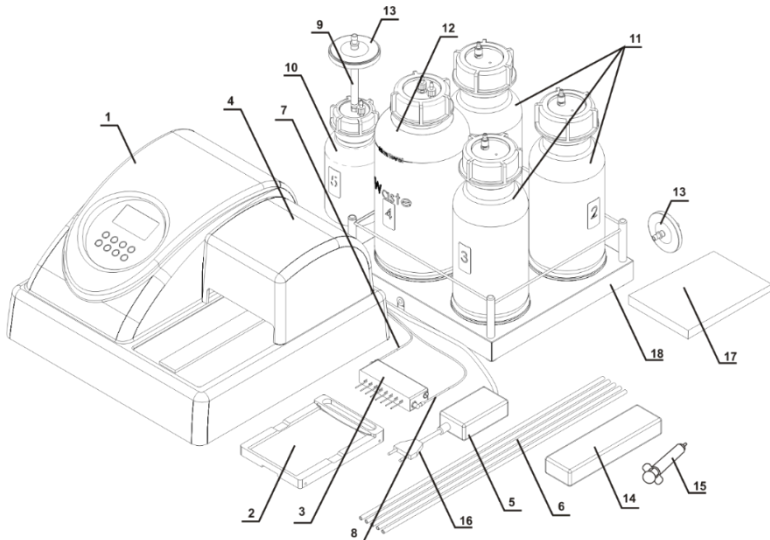
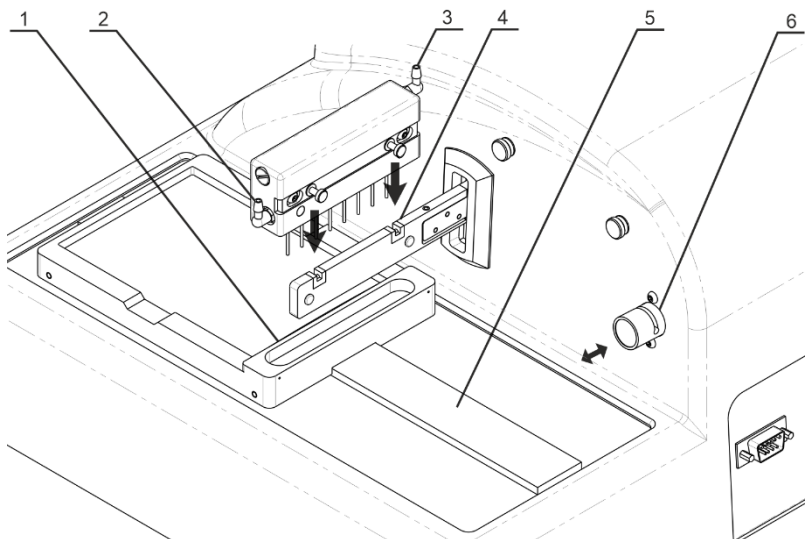
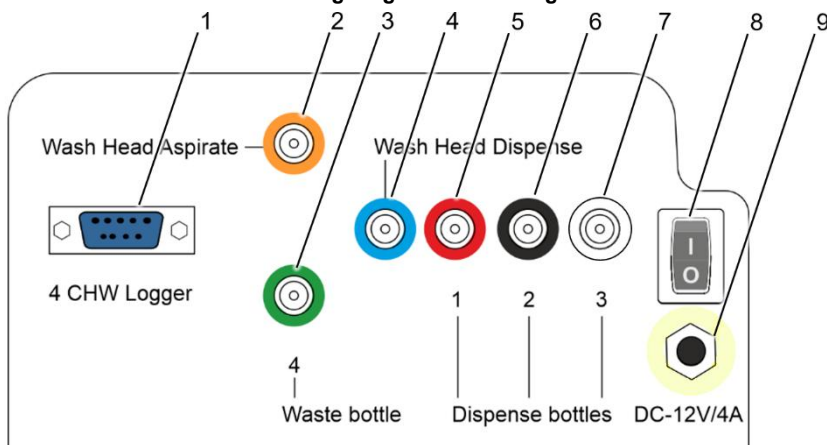
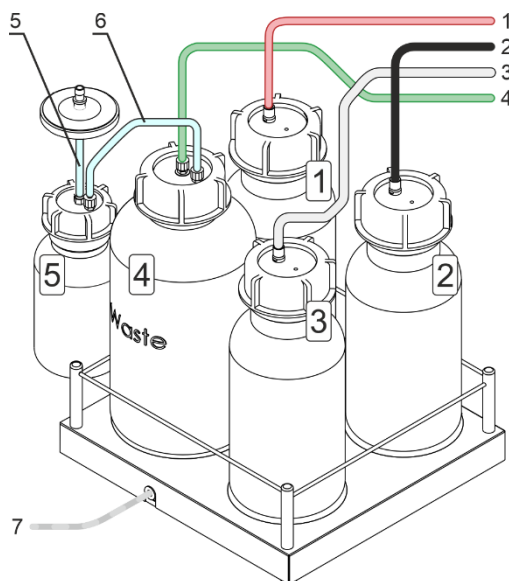

Figure 2. Complete set (see table above).
Figure 3. Unit side and back overview. Setting up.
Figure 4. Rear panel.
Figure 5. Bottles and tubing.
- Remove the protecting cover (fig. 2/4) from the unit and protective film from display.
- Unpack the plate platform (fig. 2/2).
- Place the plate platform on the railing (fig. 3/5) so that the plate holder (flat spring) faces the rear side of the unit (fig. 3/1). Magnet on the other side of the rail locks the platform into start position.
- Install the manifold in the slots of the holder arm (fig. 3/4). Magnets in the manifold and the holder arm connect and align the manifold.
Note. All tubes (fig. 2/6–2/8) and fittings (fig. 4/2–4/7) are colour-coded. Ensure that the tubes are connected securely.
- Align the thin tube with a blue stripe (fig. 2/7) with the slot on the upper side of the valve (fig. 3/6).
- Push the valve inside (fig. 3/↔), stretch and insert the tube through the slot.
- Install the protective cover (fig. 2/4). Ensure that manifold tubes are covered but are not squeezed.
4 CHW Logger adapter cable (fig. 5/7, if in use)	4 CHW Logger connector on the rear panel (fig. 4/1)
Caution! Before connecting the unit to the mains outlet, check that the power switch (fig. 4/8) is in position **O** (off).
- Connect the external power supply to the power socket (fig. 4/9) on the rear panel of the unit.
- Connect the power cord to the external power supply (fig. 2/16)
- Switch on the unit (position **I**) using the power switch (fig. 4/8) on the rear panel.
Note. (For 3D-IW8) When working with the FastFRAME plates, remove the plate holder (fig. 3/1). Install it back after operations, see **4.3.2**.